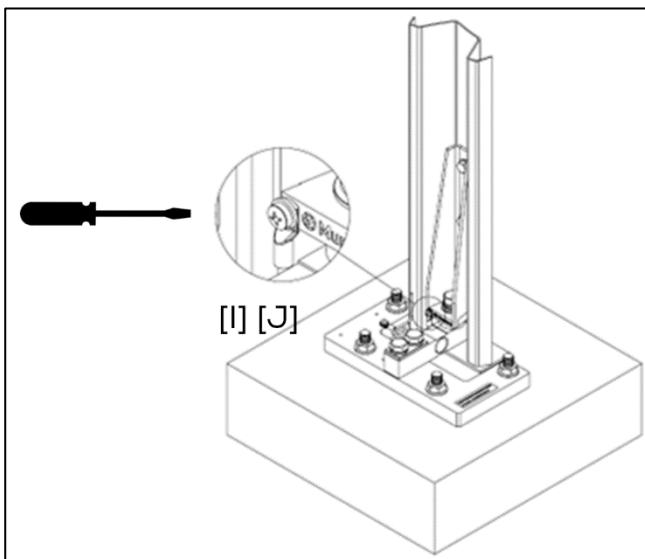

Figure 24: Attaching the ground wire
13. Fasten a grounding wire to the leg adapter bolt [I] and spring washer [J]. Apply a clean powder coating for maximum continuity (Figure 24).